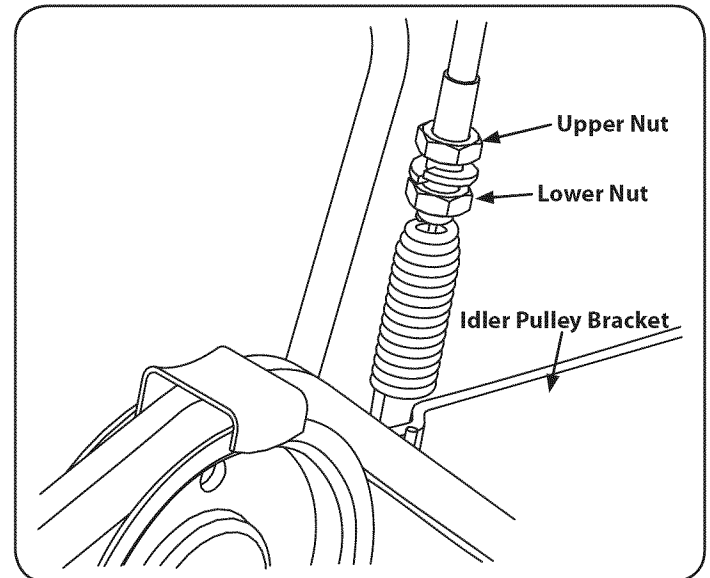

Figure 31
2. Locate the spring at the end of the cable. See Figure 31.